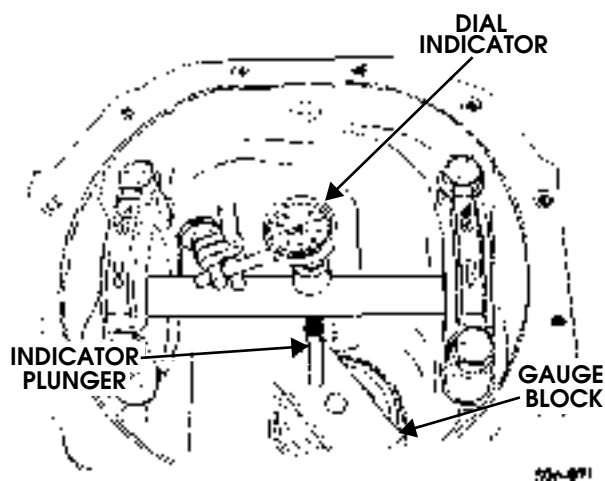

Figure 9-86: Gauge Setting
12. Rotate the gauge shaft slowly back and forth until the dial indicator reads the greatest deflection. At the point of greatest deflection, set the dial indicator to zero. Repeat the rocking action of the gauge shaft to verify the gauge setting (Figure 9-86).